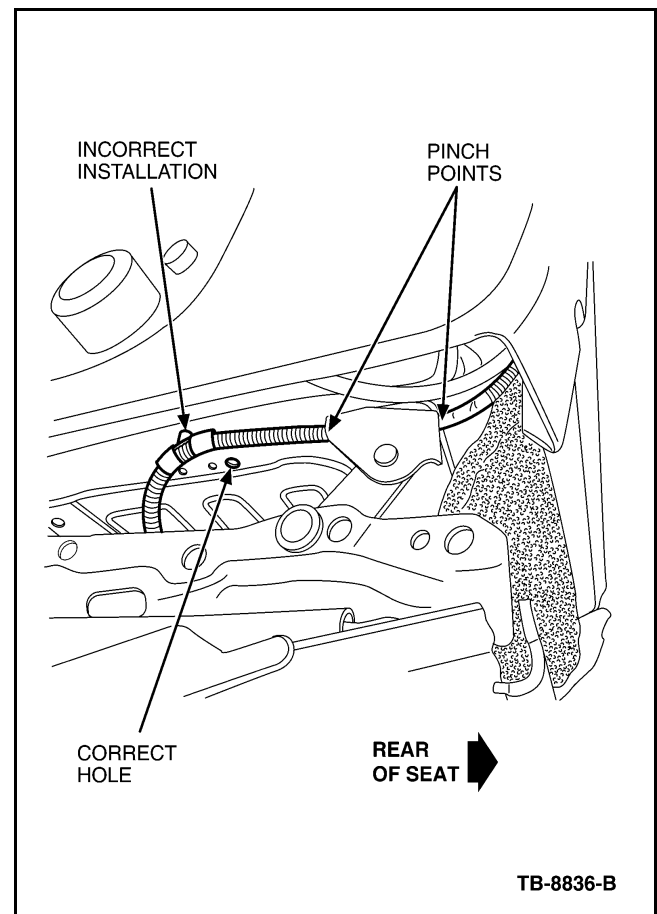

Figure 1 - Article 09-8-7
1. Place seat up-side-down on a clean surface and inspect the side airbag wire harness for indications of chafing, pinching and incorrect wire harness routing. (Figures 1 and 2)